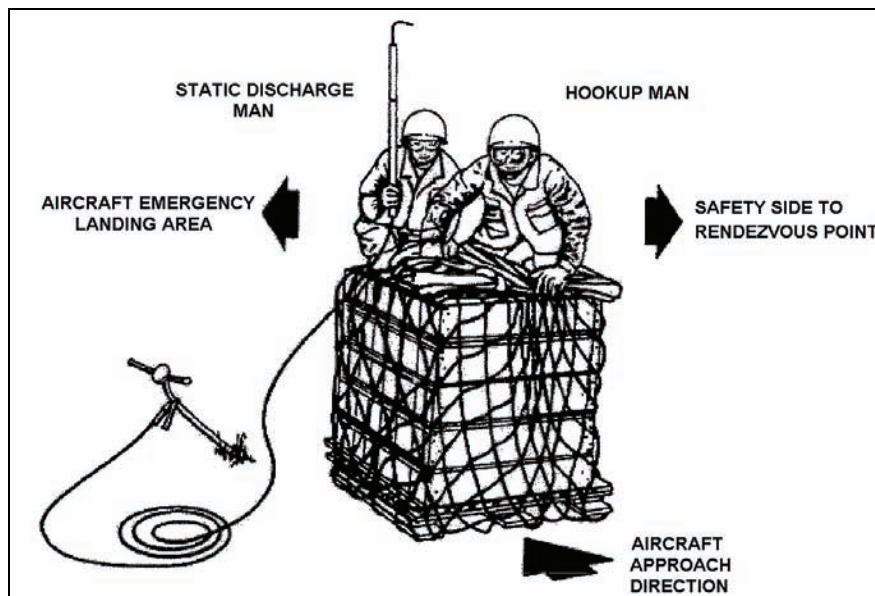

Figure 3-90. Positioning of Static Discharge Man
c. Direct the static discharge man to position himself on or near the load (see Figure 3-90).